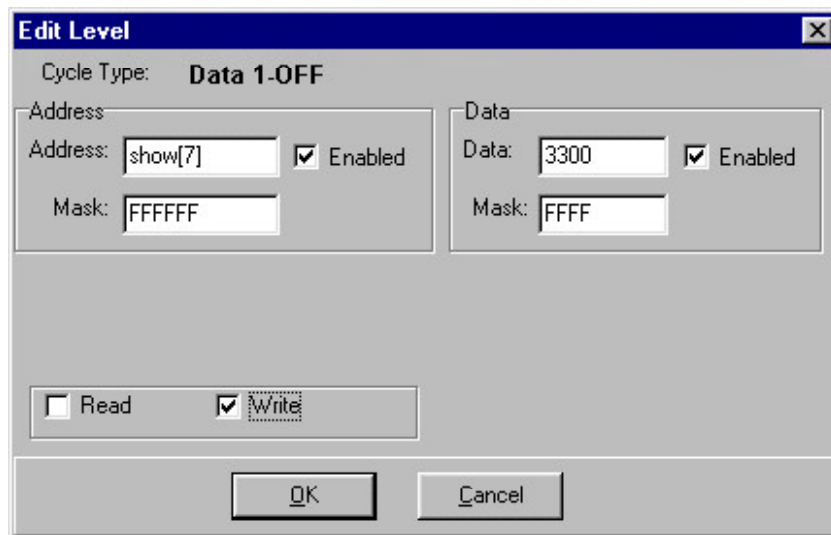

Figure 7. Example Settings for the Edit Level Dialog Box
8. Select the Write option (figure 7).